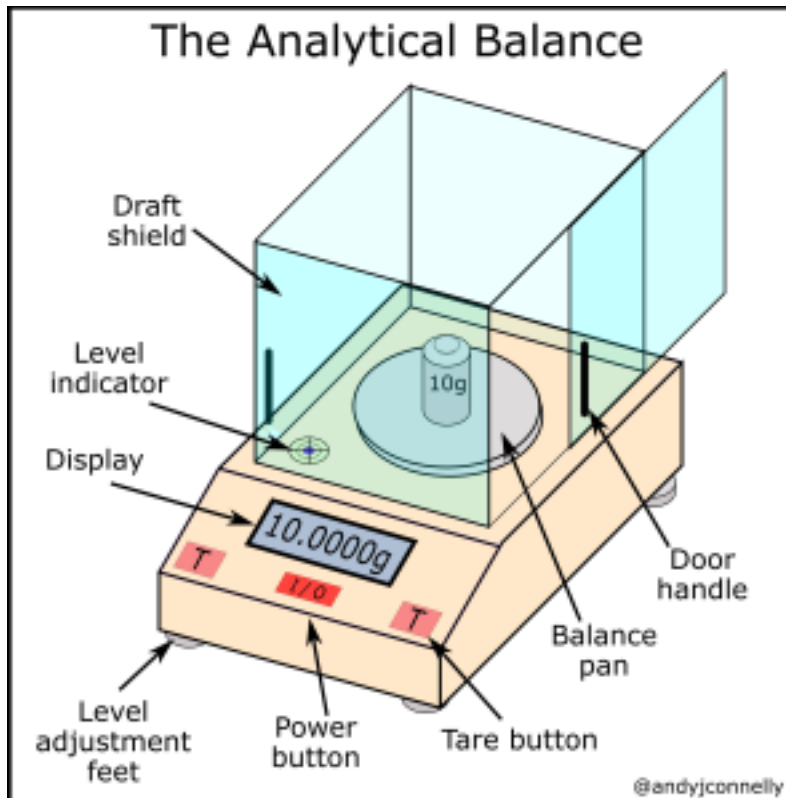

Figure 1: The analytical balance.
Here we will mainly look at analytical balances as see in Figure 1. These are sensitive enough that they normally require a transparent enclosure which blocks air currents and prevents dust collecting (see Figure 1). To perform well they have to be level and so are fitted with level indicators (usually a spirit level). Apart from these two important factors the basic operation is very similar to your electronic kitchen balances at home.
- Check the balance is level using the level indicator (see Figure 1). If the bubble is not in the center adjust the level, normally by twisting the feet, until the bubble is in the center of the inner circle.